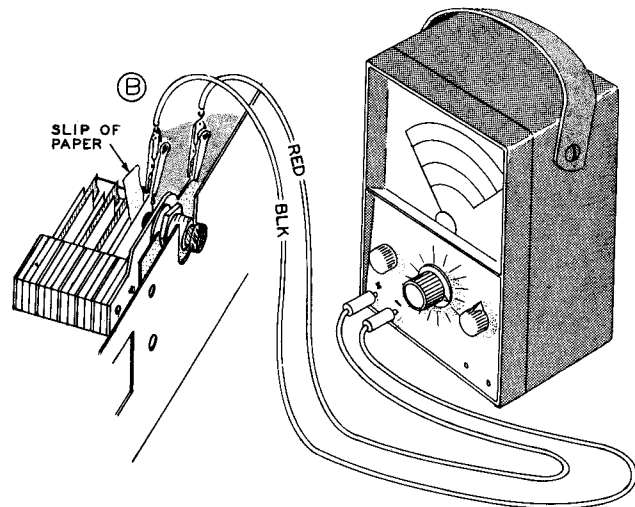

Figure 5
- () Connect the negative (-) lead of the milliammeter to contact B of switch SW1. See Figure 5.
- () Place a small piece of paper between the two contacts at B on SW1 as shown in Figure 5. This breaks the emitter circuit of V4 to ground and effectively places the milliammeter in series with the emitter.